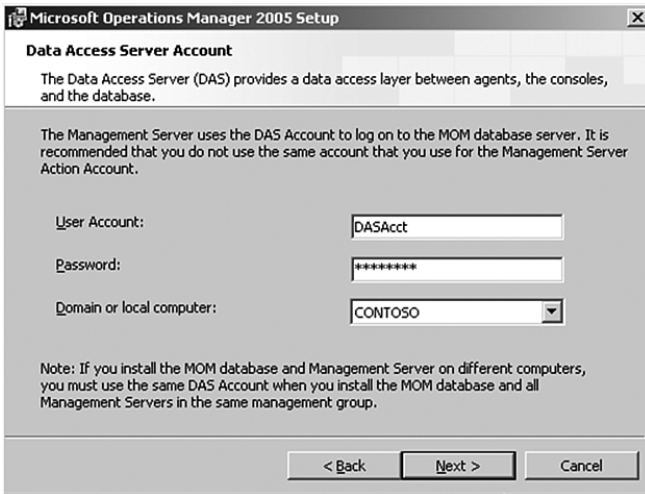

FIGURE 7.6 Enter user account, password, and domain for the Data Access Server account.
4. On the Identity tab, enter the credentials for the new DAS account. The DAS account credential screen is shown in Figure 7.6 in the following “Database Upgrade” section of this chapter.
- Continue to the Data Access Server Account screen to enter your DAS Account username, password, and domain, as shown in Figure 7.6. This account requires database owner access permissions to the MOM database (OnePoint).